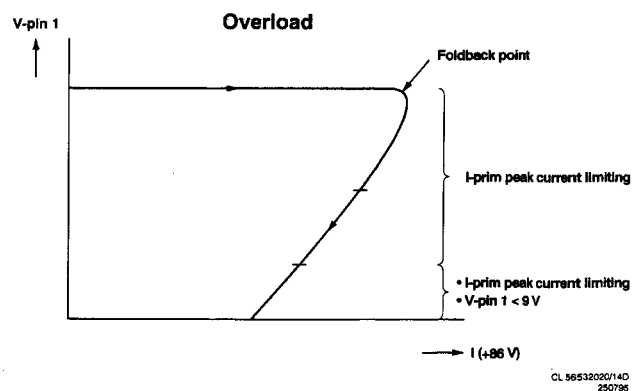

Fig. 9.4
9.4.4 Overload (short-circuit) protection (see Fig. 9.4)